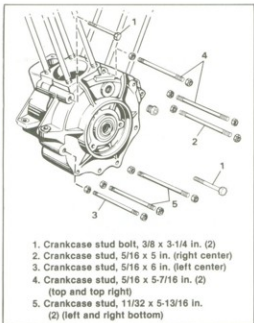

Figure 3-37. Crankcase Studs — Exploded View
4. See Figure 3-37. Remove crankcase bolts and studs (1, 2, 3, 4, 5). It is necessary to remove only one stud nut and slip stud and other nut out opposite side of crankcase.